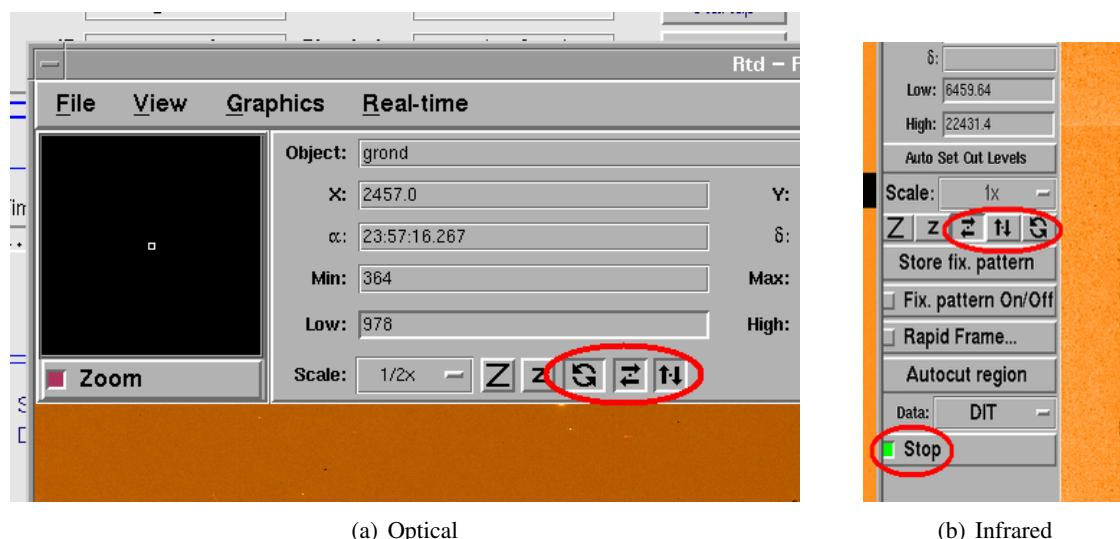

Figure 2.10: Correct sky orientation of the GROND displays. The infrared one is receiving data in real time (green checkbox).
- c. Check that image is flipped along both axes and rotated (see Fig. 2.10(a)).
The left column should have a green button with text Stop (see Fig. 2.10(b)).
- g. Check that the image is horizontally flipped (see Fig. 2.10(b)).